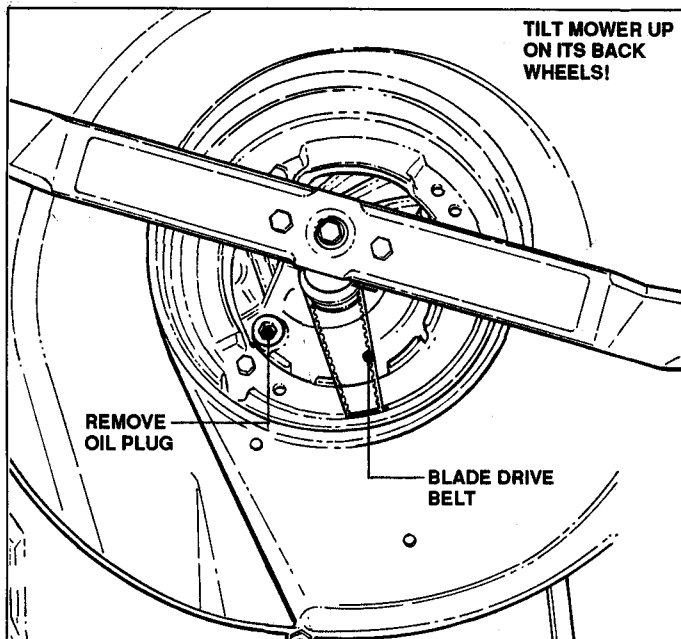

FIGURE 9
1. Tilt mower up on its back wheels to remove oil drain plug from underneath. See Figure 9.
- E. Install new belt in reverse order. Refer to Figures 9 and 10.